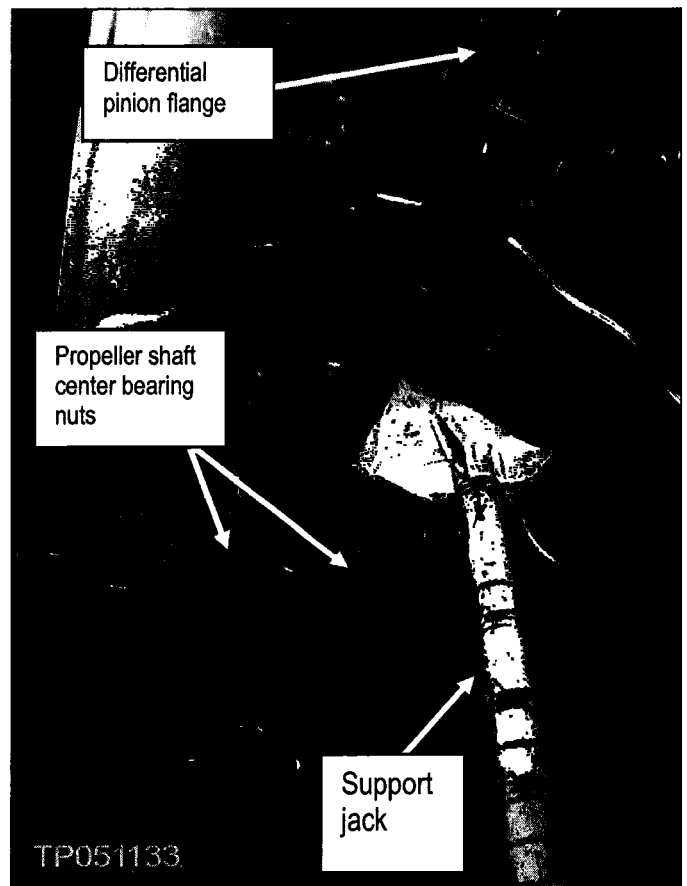

Figure 19
19. Position a support jack about six inches below the propeller shaft (see Figure 19). Then remove and discard the propeller shaft center bearing nuts and carefully lower the shaft onto the support jack.